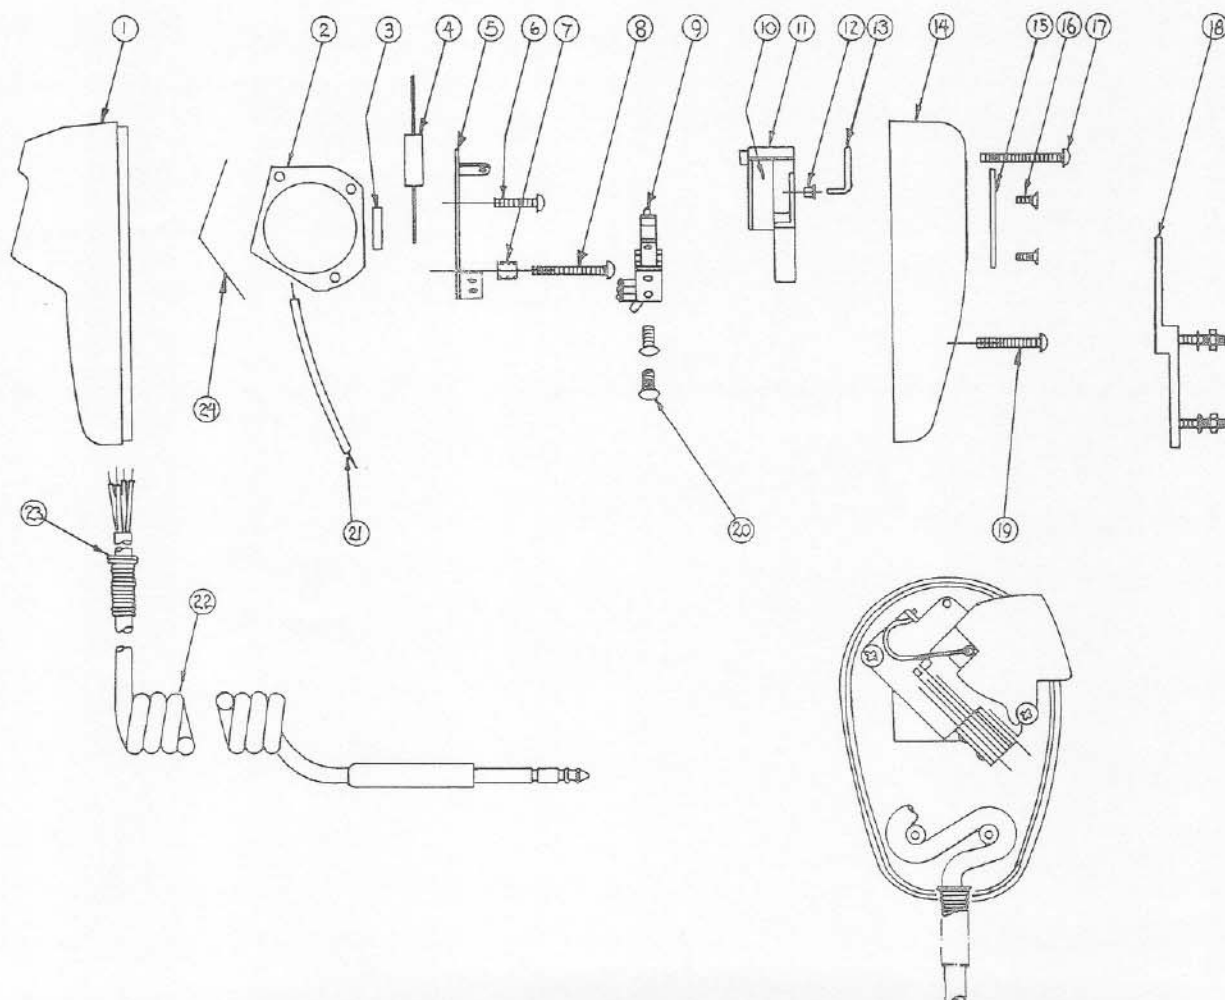

FIGURE 1 — Assembly Drawing
2. Disassembly. (See Figure 1)
- Do not disassemble the head and capacitor subassembly (2) to (6) unless capacitor or head must be replaced. If this is necessary proceed as indicated in steps c. and d.
- Remove head by first removing screws (Items 6 & 8) and switch bracket (Item 5). See Figure 1.
- Do not unsolder leads to switch unless it is necessary to replace switch assembly or cable (10).